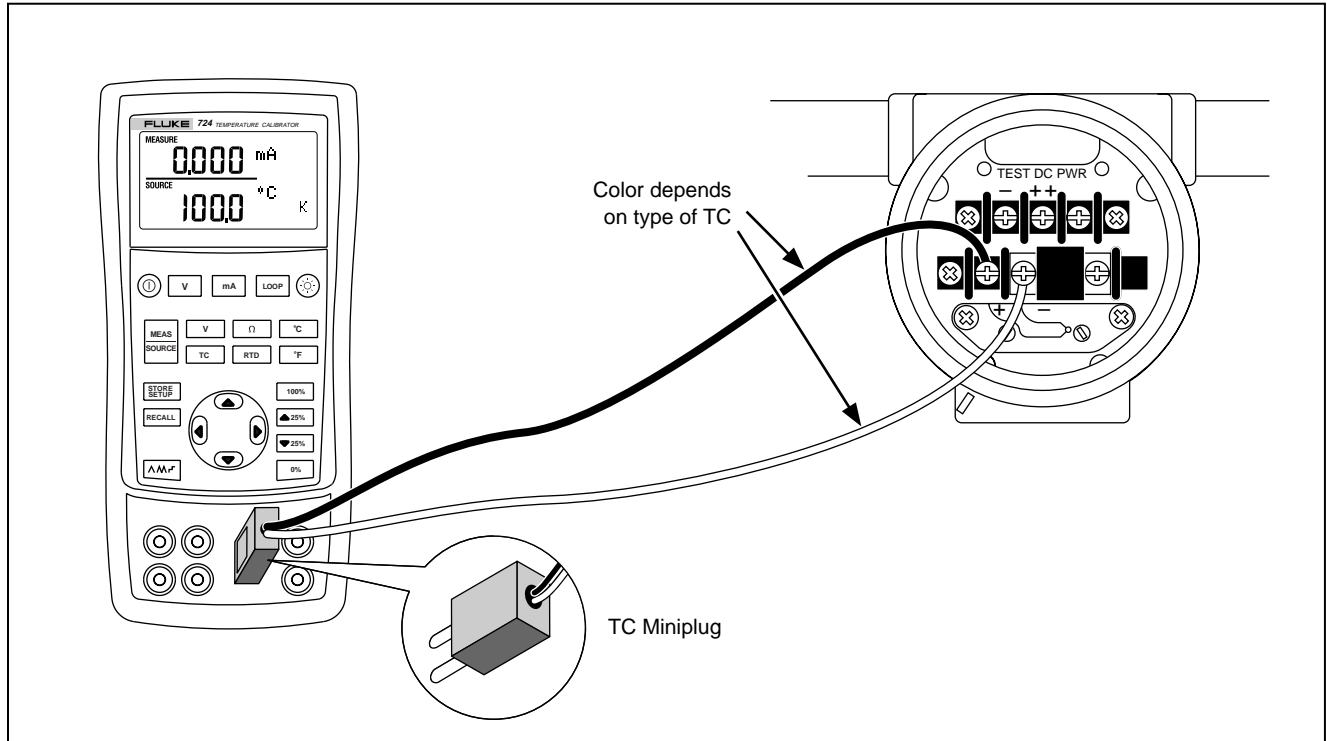

Figure 12. Connections for Simulating a Thermocouple
*One pin is wider than the other. Do not try to force a miniplug in the wrong polarization. Figure 12 shows this connection.*
1. Attach the thermocouple leads to the appropriate TC miniplug, then to the TC input/output as shown in Figure 12.